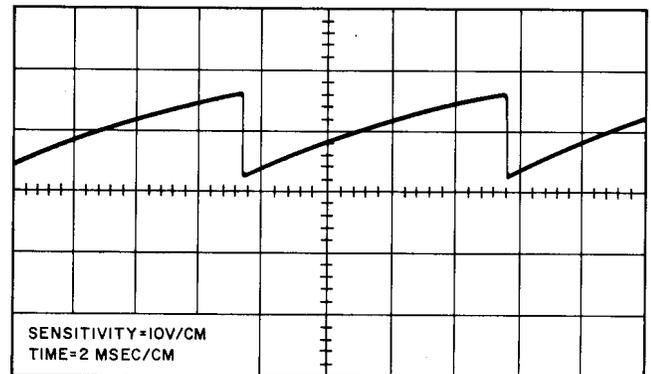

Fig. 15—Master Oscillator Waveform
- (1) Using the KS-14510 meter, check the voltage between TP205-TP204. If the voltage is not 30 volts dc, relay S201 is probably faulty.
- (2) Connect the oscilloscope to TP201-TP204.
- (3) If the waveform is not as shown in Fig. 15, check Q201.